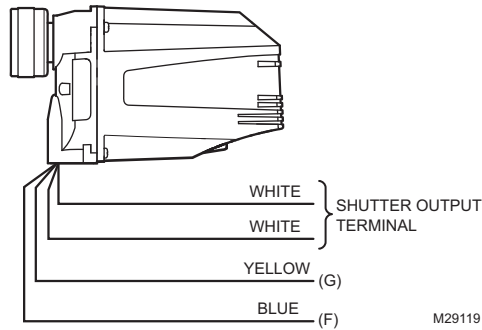

Fig. 7. Wiring diagram for C7061M Detectors with 7800 Series Flame Safeguard controls with shutter drive circuitry.
7. Refer to Fig. 7 for wiring connections.